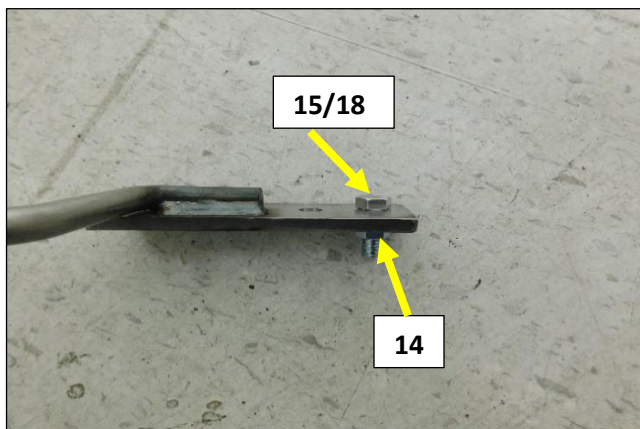

Figure 10
1. Install the 5/16-18 x 1 bolt (18) with 5/16 flat washer (15) and 5/16-18 nut (14) into the outer hole in the frame hanger mounting plate. **Fig .10**